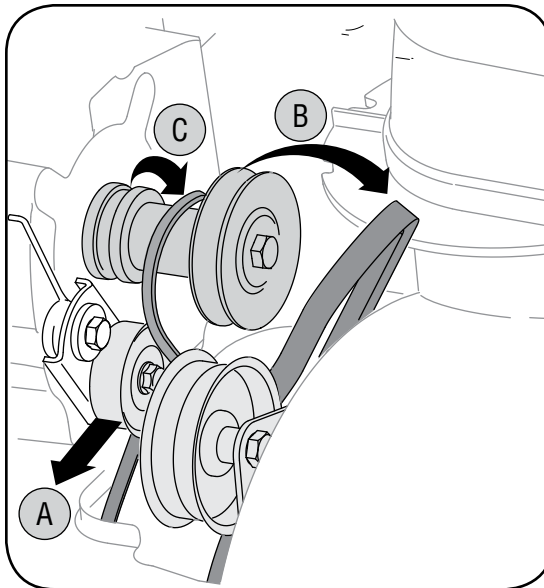

Figure 26
- Grasp the idler pulley and pivot it toward the right. See Figure 26. Insert a screw driver through aligning holes in both the idler bracket and the engine. This will release tension on drive belt.
- Lift the drive belt off engine pulley. See Figure 26.